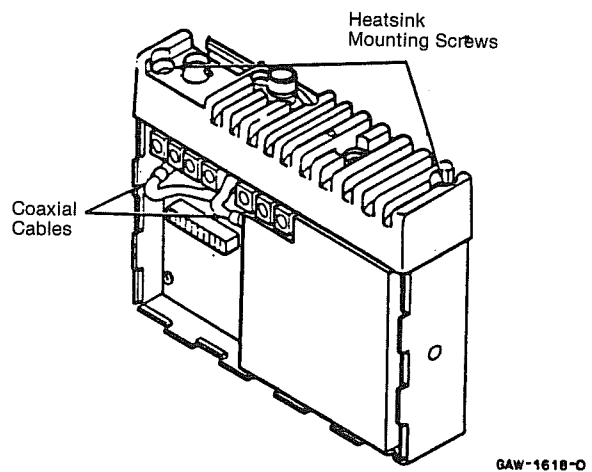

Figure 12
(2) Disconnect the transmit and receive coaxial cables from the RF board (Figure 12).
(3) Remove the heat sink mounting screws (Figure 12) and pull the heat sink off the chassis, at the same time carefully feeding the transmit and receive coaxial cables through their holes in the chassis.